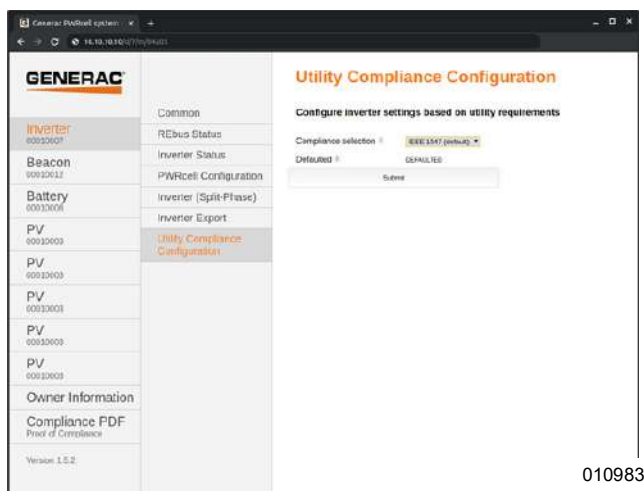

Figure 6-28. Utility Compliance Configuration
2. See Figure 6-28 Click on Utility Compliance Configuration and select the appropriate utility compli-